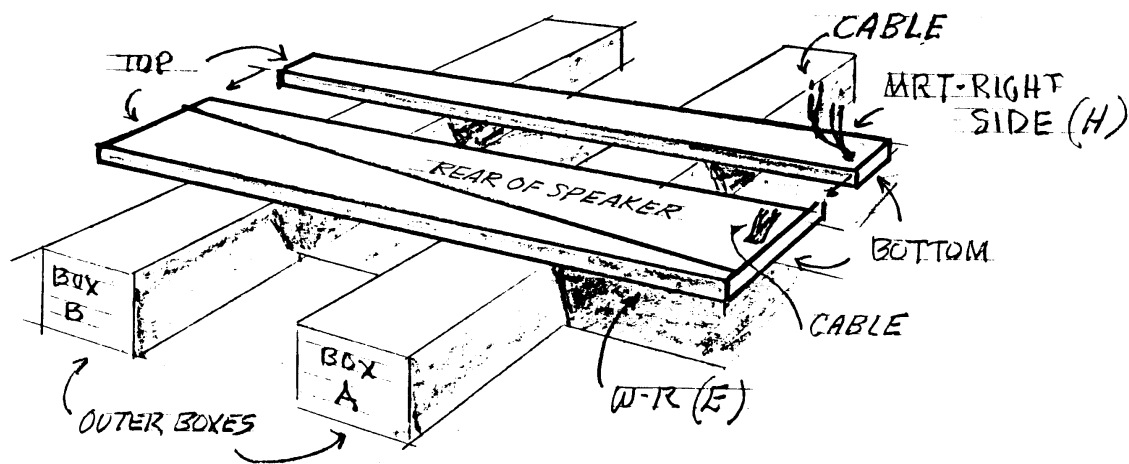

FIG. 2
- d) Lift W-R by holding at top and bottom and place on boxes A and B as shown in FIG. 2.
- 5) Place the right midrange tweeter, MRT-R on boxes A and B.(see FIG. 2) . The bottom of the MRT-R should be toward speaker position.
- d) Tighten the screws loosened under item 4 to facilitate the MRT and Woofer assembly.